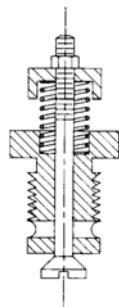

FIGURE 12
Hydraulic make-up valves are designed to maintain the correct volume of oil in the hydraulic system between the piston and the diaphragm. Pumps are supplied with one of two valve styles shown in figures 12 & 13.
4.6 Adjustable Valves (Figure 12)